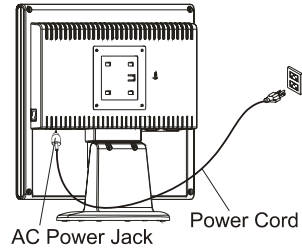

Figure 1-3
1. Connect the power cord to the LCD Monitor. (See Fig. 1-3)